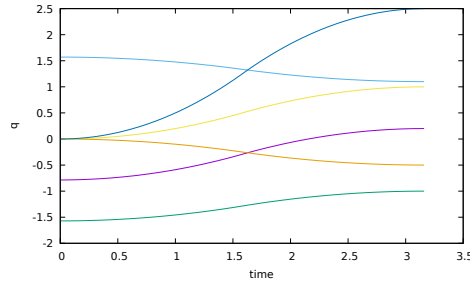

Figure 2: Angle of the joint axes for a sample PTP motion. The leading axis is blue.
- The motion of the other axes should end at the same time  $t_{\text{end}}$  when the leading axis stops to move. As fig. 2 illustrates, the motion of the other axes have to be slowed down / stretched to achieve that.